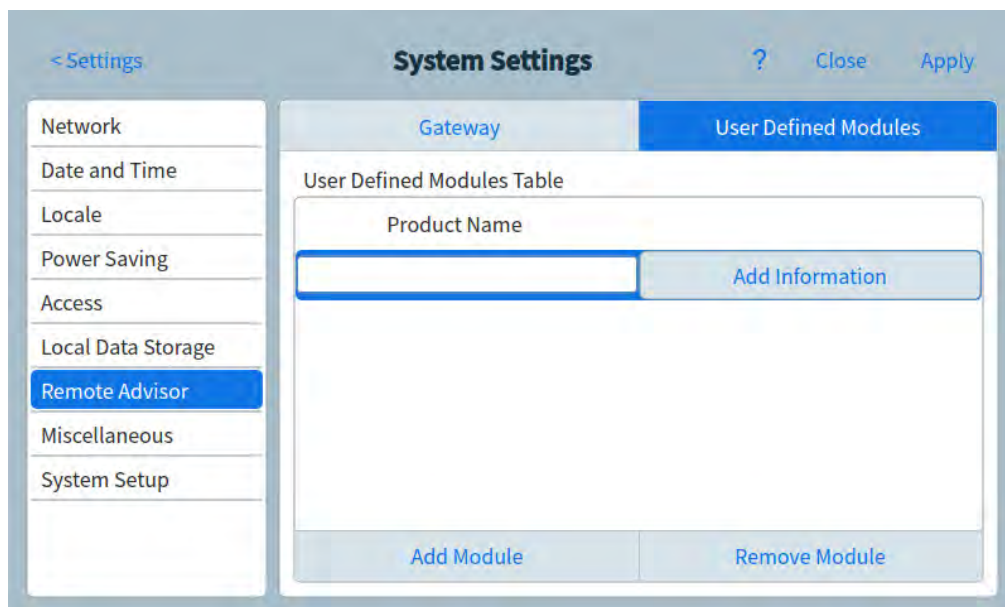

Figure 50. Remote Advisor page - Add Information
- b Select **Add Module**. A Product Name entry line appears. See **Figure 50**.